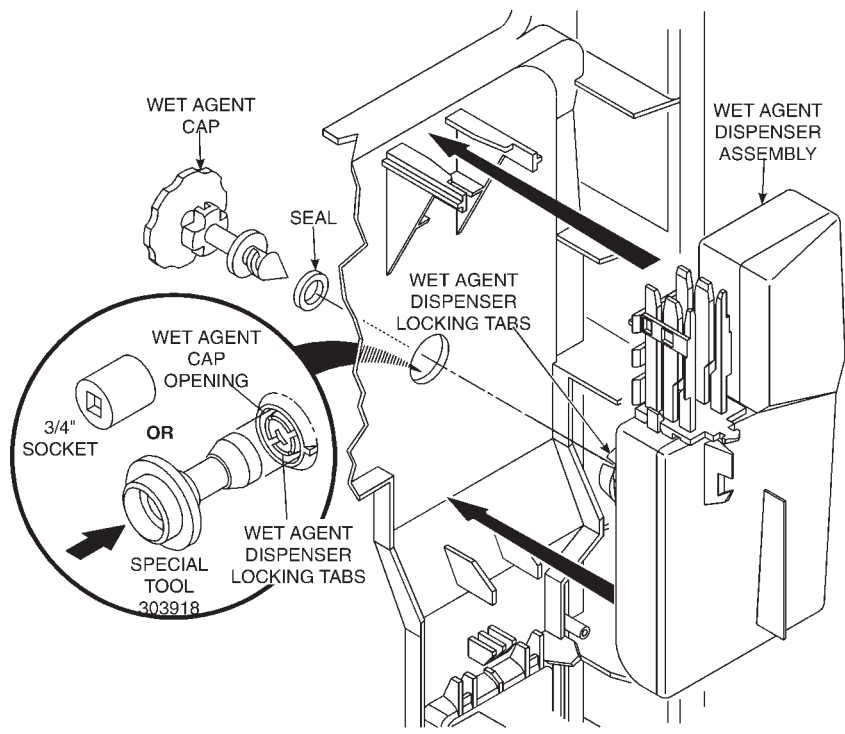

Fig. 3-12
3. Turn the wet agent cap and seal assembly counterclockwise and remove it. (Fig. 3-12)
5. Use Special Tool - Part No. 303918 or a  $\frac{3}{4}$ " socket to press over the attaching tabs in the wet agent cap opening. Remove wet agent dispenser assembly. (Fig. 3-12)
7. Press the wet agent dispenser assembly into position so the locking tabs engage the wet agent cap opening. No tool is needed for assembly. (Fig. 3-12)